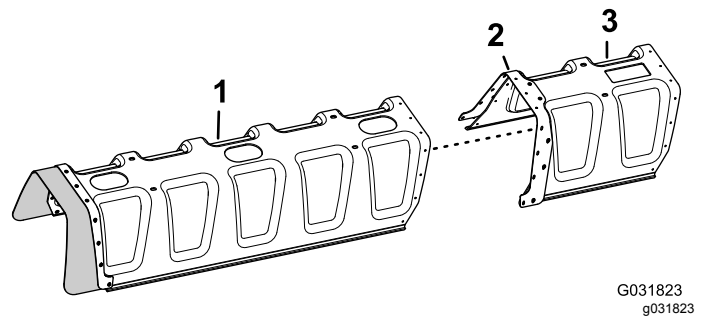

Figure 146
3. Align the holes in the reinforcement plate (double row) on the cover extension with the holes in the end of the 11-nozzle boom cover (Figure 146).